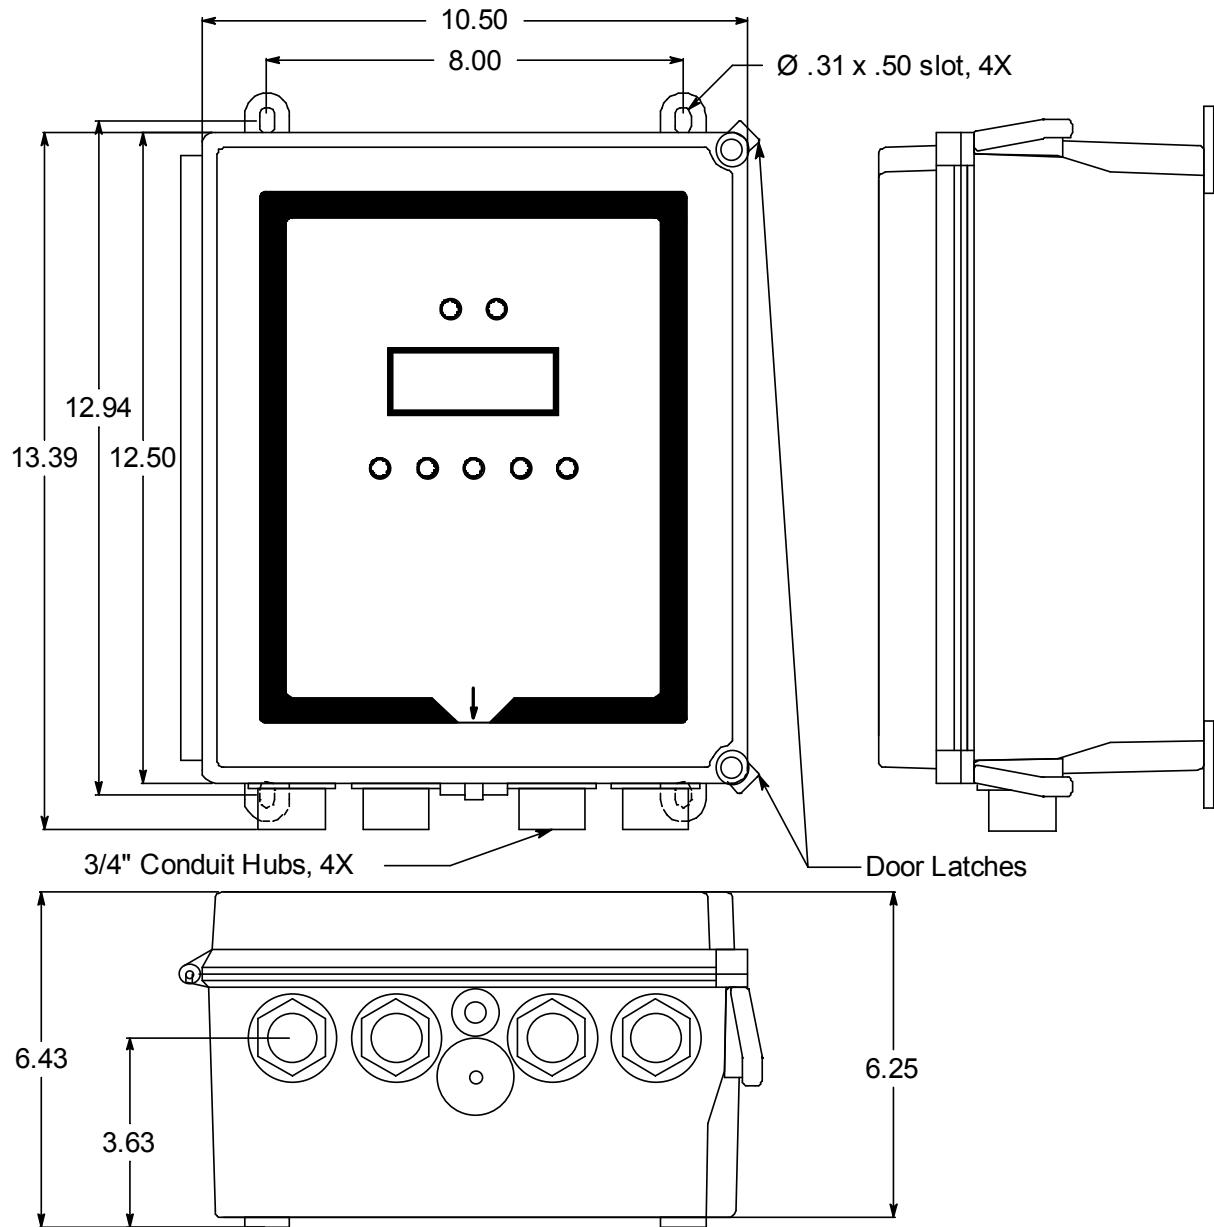

Figure 7: Beacon 410 Gas Monitor Outline and Mounting Dimensions
The Beacon 410 can be ordered with a red alarm strobe light installed on the top of the housing. The Beacon 410 retains its NEMA 4X rating with the strobe installed. Strobe operation can be programmed in Configuration Mode (see “Chapter 6: Configuration Menu” on page 38). The outline and mounting dimensions with the alarm strobe are the same as the standard Beacon 410 with the exception of the height. The difference is shown below. See Figure 7 for all outline and mounting dimensions.
3. The Beacon 410 is shipped with the mounting feet positioned under the housing. Loosen the screws that secure the feet to the housing, rotate the feet to their mounting position as shown in Figure 7, then tighten the screws.
4. Prepare the selected mounting site as required to mount the Beacon 410. It should be mounted at eye level (4 1/2 to 5 feet from the floor). Refer to Figure 7 for the outline and mounting dimensions.